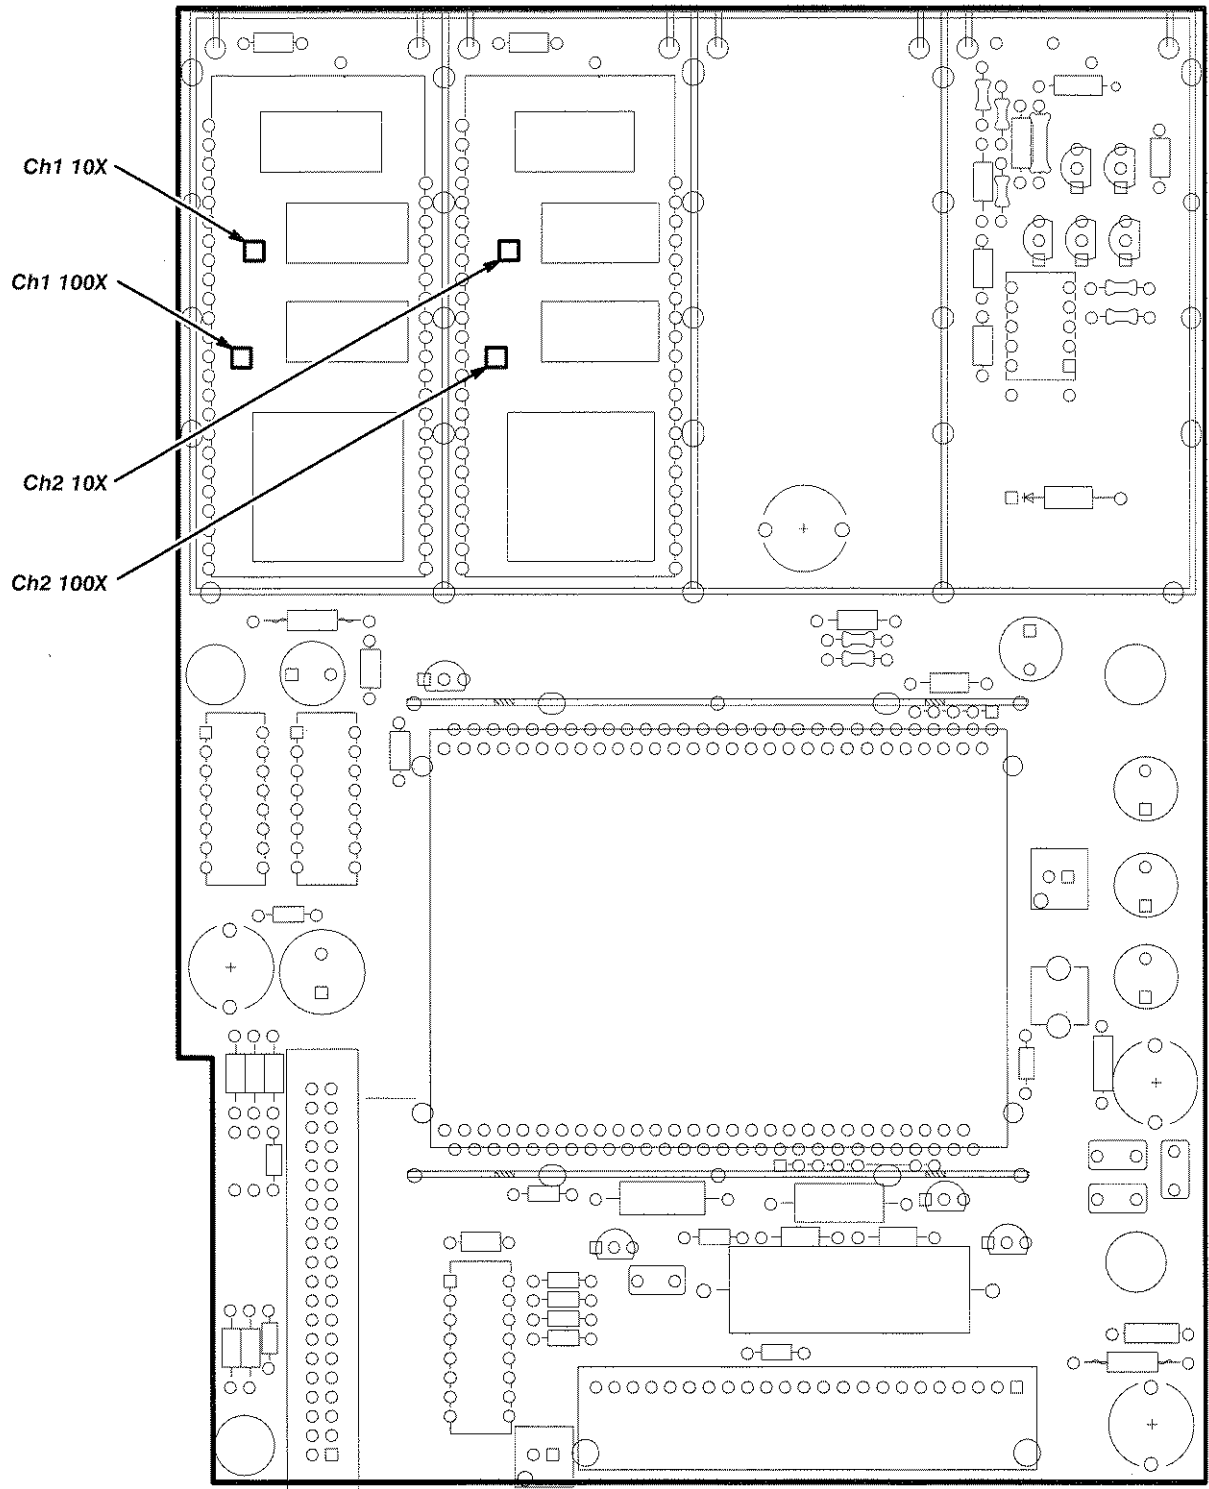

Figure 7-15: Analog Board Adjustment Locations
**Equipment Required:** One pulse generator (item 10), one precision coaxial cable (item 5), one 50  $\Omega$  termination (item 3), and one dual-input coupler (item 7).
**Adjustment Locations:** This procedure requires adjustments to the Analog board. See Figure 7-15 on page 7-20 for the location of the adjustments.